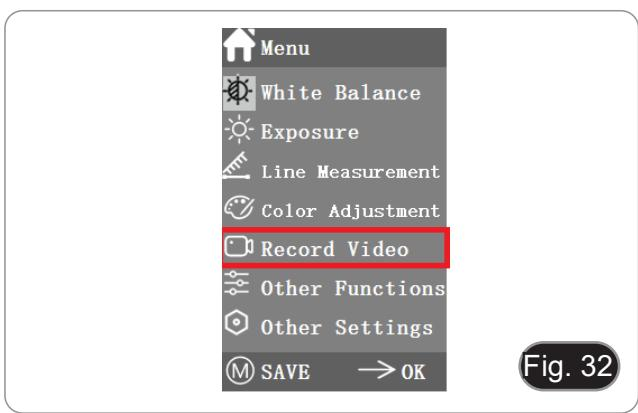

Fig. 32
- Press M button to show menu in the screen (Fig. 32) and choose Record Video option by pressing ↑ or ↓.